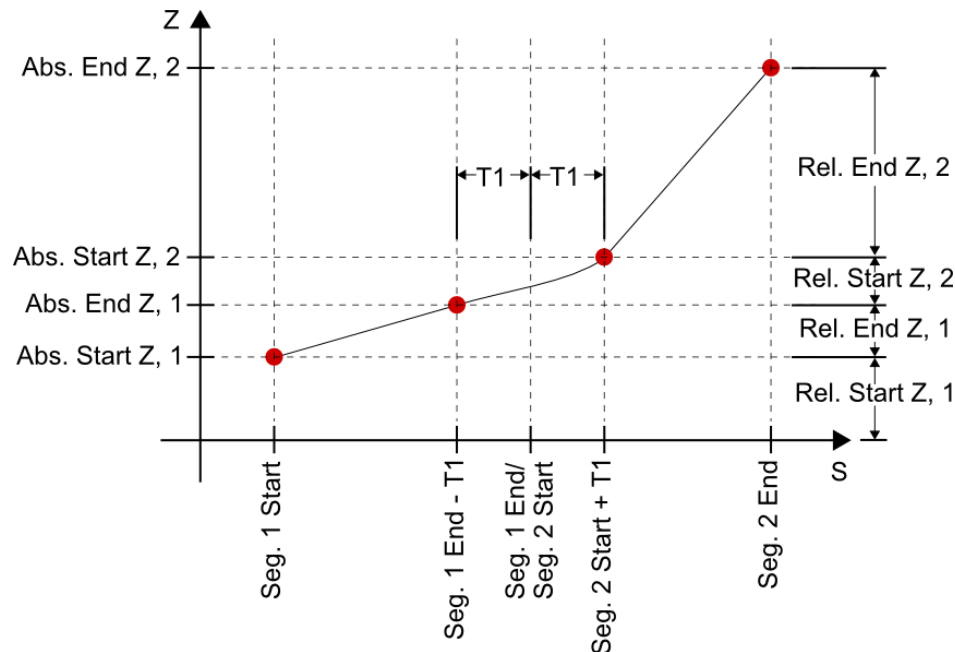

Figure 37. Conceptual drawing of the elevation description of the Segment Builder screen.
- ⁽²⁴⁾ Elevation transition distance. This value specifies the transitional distance for the elevation at the end of the current segment and the beginning of the next segment. A spline curve will be automatically drawn in this region to connect the two segments. A conceptual drawing of this is shown in Figure 37 in which this field would be the value T1.